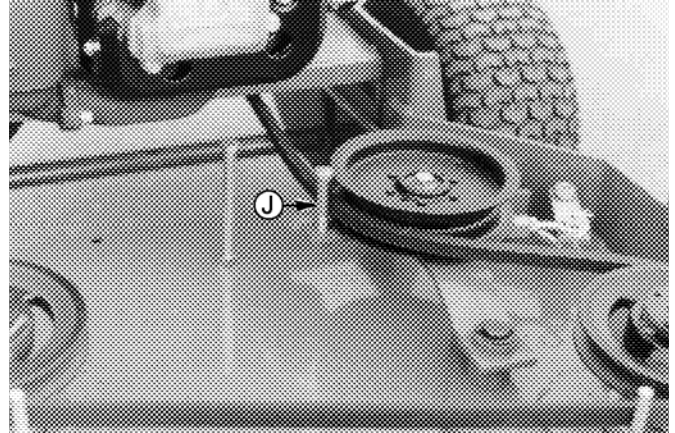

Figure 7
- c. Remove the cap screw which serves as a belt guide and is mounted in the idler pulley arm. (Item J, Figure 7.)